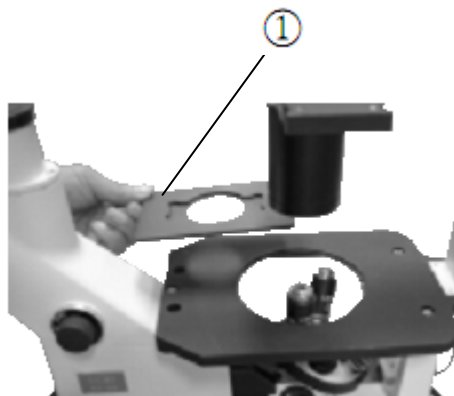
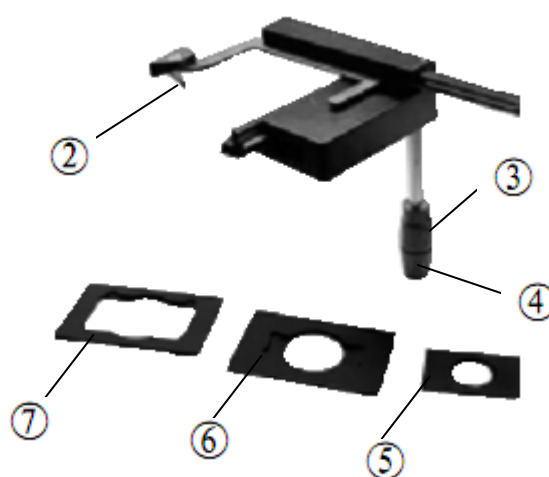

Fig.18
Fig.19
If the nosepiece dropped automatically, or the specimen defocused soon even you focus with the fine focus knob③. It means the coarse focus knob is too loose, you should screw it down at the direction shown by the arrowhead in the Fig.18.
### 4-2-1 Placing the specimen (Fig.18& Fig.19)